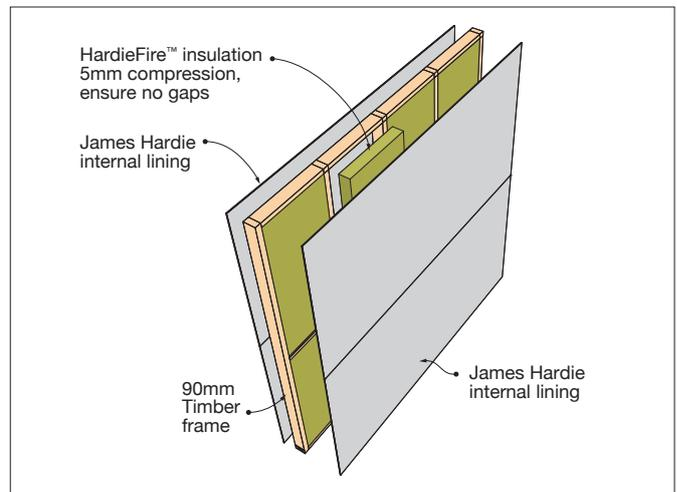

FIGURE 1 HARDIESMART™ AGED CARE WALL SYSTEM LAYOUT
2. HARDIEFIRE™ INSULATION: It must be used as the frame cavity infill and must be compressed 5mm at a minimum in both vertical and horizontal directions (i.e. Batt size must be at a minimum 5mm wider and longer than frame stud bay). **Ensure there are no gaps in the installation.** Please refer to figure 1 for more information on installation. If cutting is required, it is recommended to cut outdoors. If indoors, please ensure that workspace is properly ventilated and HEPA vacuums/dust extractors are used.